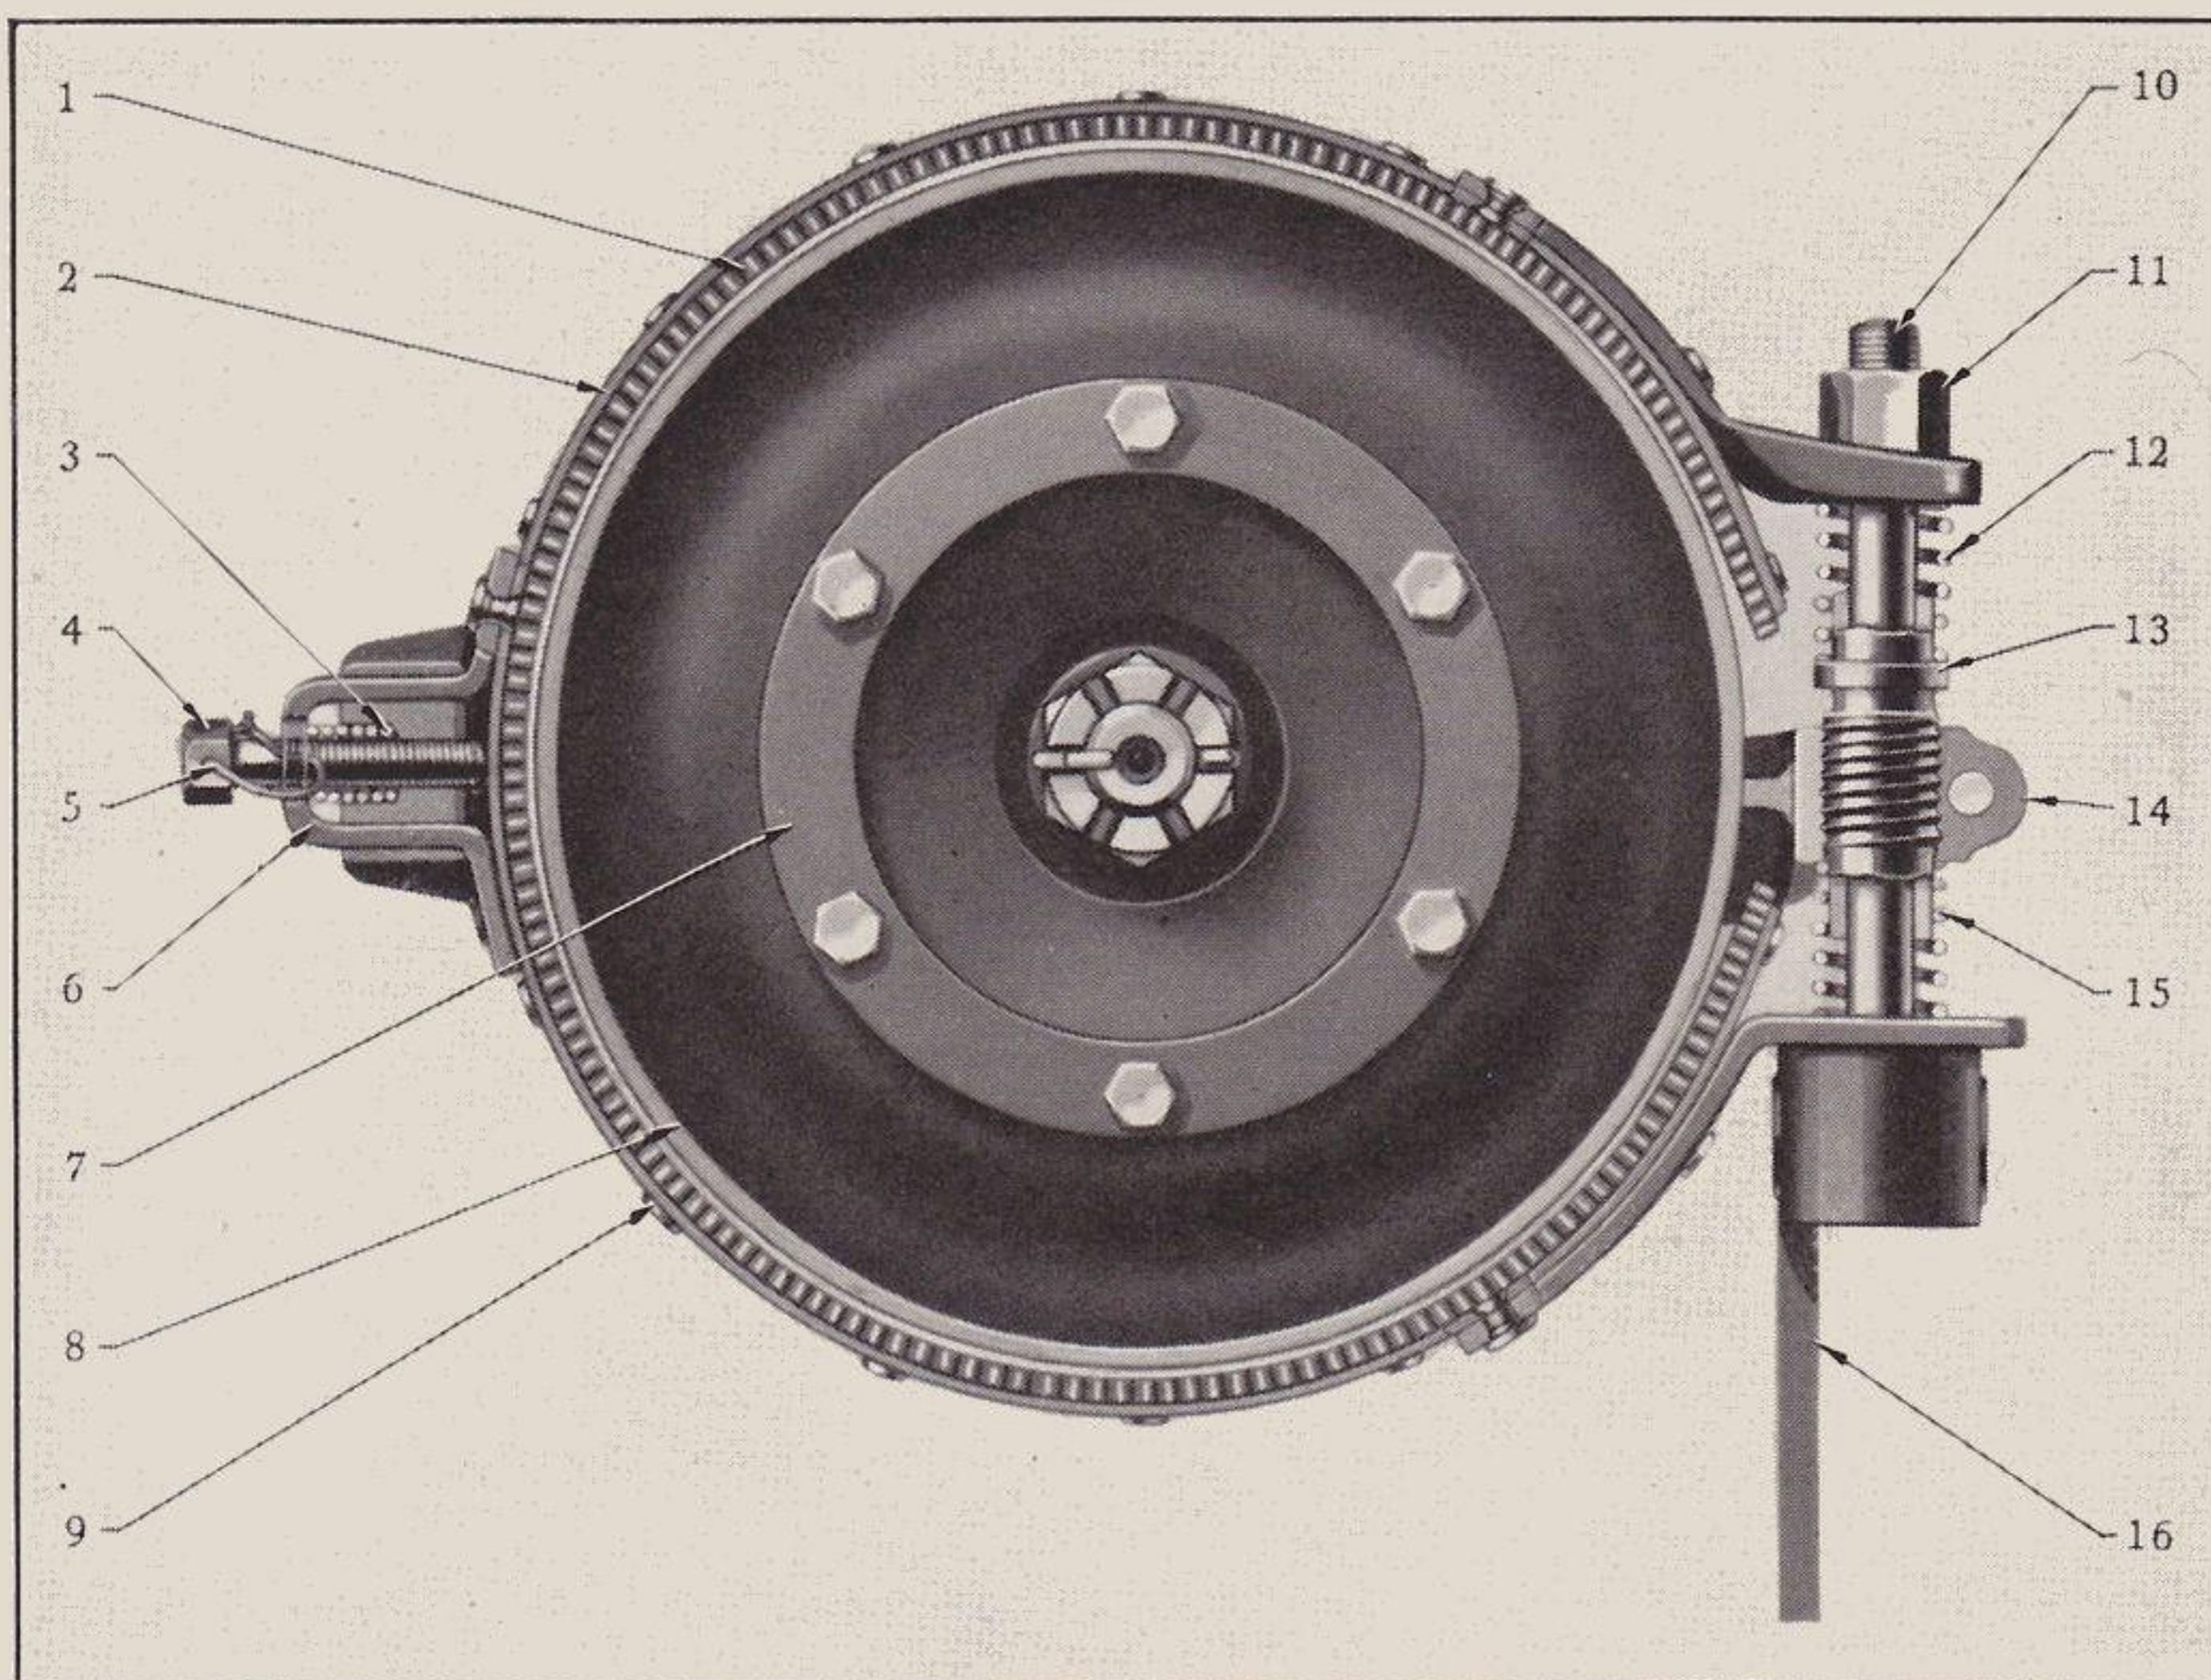

Fig. 9—Hand Brake
Adjustment is made by first jacking up the rear wheels and setting the brake hand lever in the extreme forward position. Then the brake anchor adjusting screw (4, Fig. 9) should be turned so as to give $\frac{1}{16}$ " (1.59 mm.) clearance between the drum and the lining, and it should be observed that the anchor clip moves freely on the anchor bracket while operating the brake. Next the adjusting sleeve (13) should be turned to give $\frac{1}{16}$ " (1.59 mm.) clearance throughout the remainder of the lower half of the drum. The adjusting screw clamping bolt should be tightened after this adjustment has been completed and then the adjusting nut (11) turned so as to give $\frac{1}{16}$ " (1.59 mm.) clearance between the upper half of the band and the drum. The band should conform to the drum at all points except at the ends as shown in the illustration.